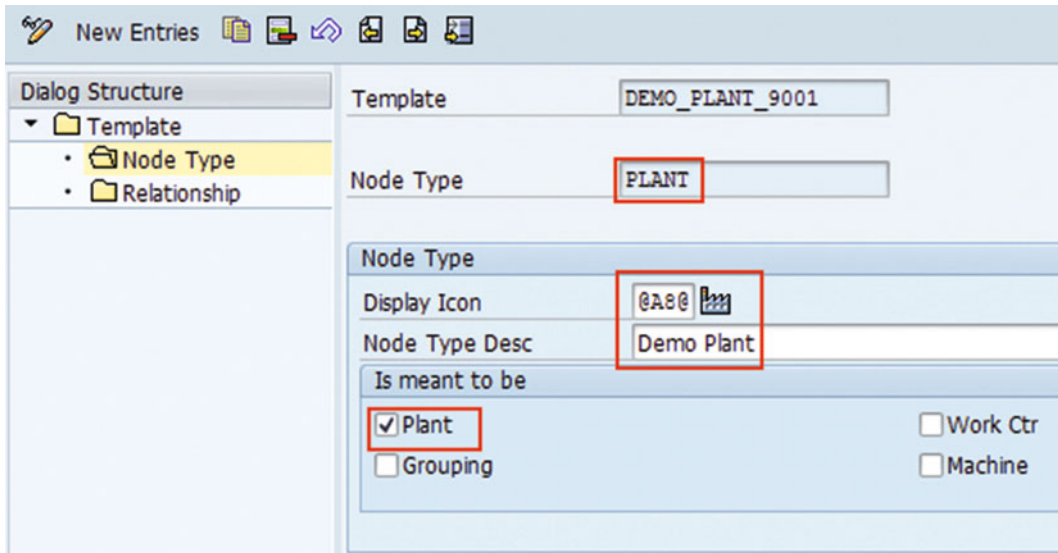

Figure 3-35. Configure plant hierarchy template: plant (root node)
To define the node type, select New Entries and enter any one of the following for each node type, as in Figure 3-35:
- d. Check “Plant” checkbox, as the node type is plant. Refer to Figure 3-35.